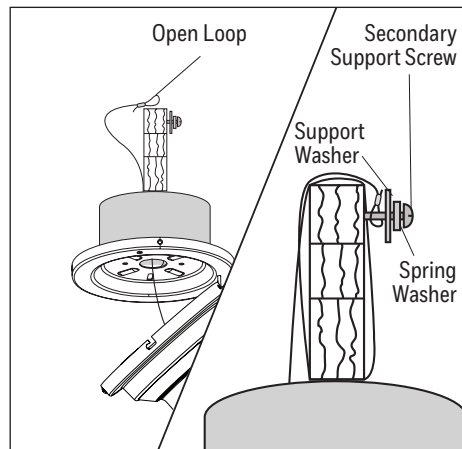

Figure 3.2
- Important:** The braided cable must make a complete circle around the support brace to secure the fan (Figure 3.2).